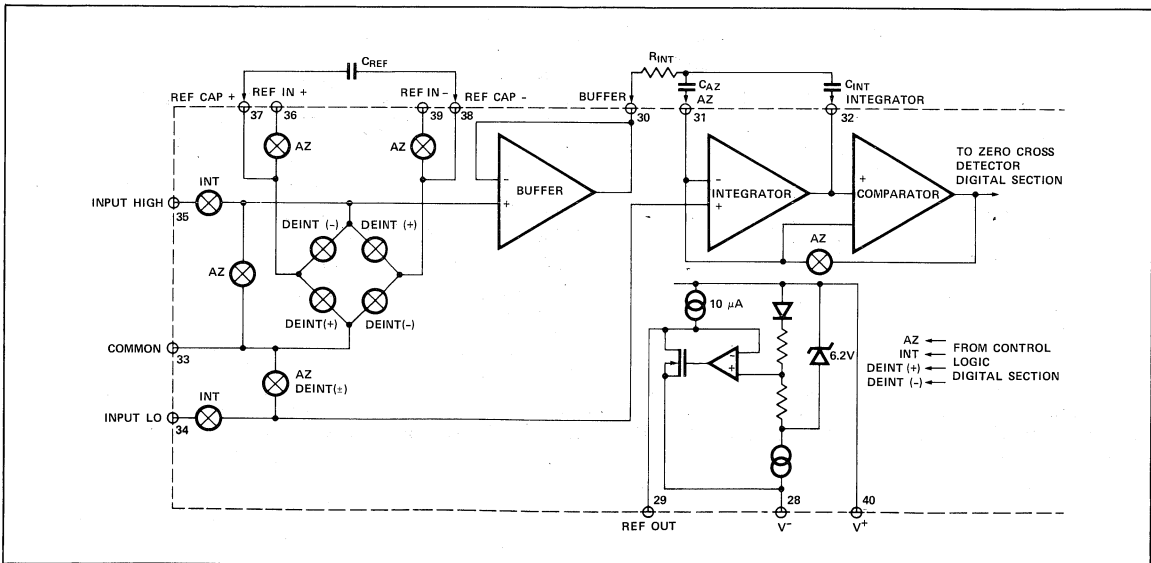
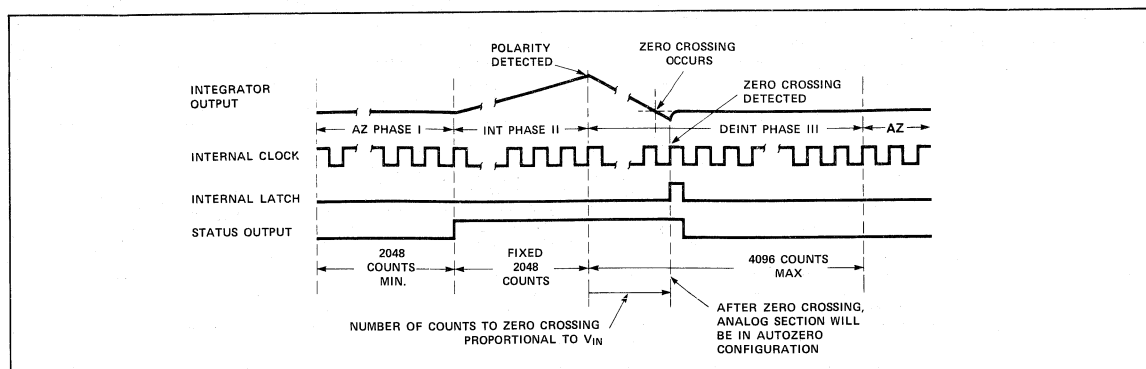

Figure 2: Analog Section
Figure 3: Conversion Timing (RUN/HOLD Pin High)
Figure 2 shows a block diagram of the Analog Section of the TSC7109. The circuit will perform conversions at a rate determined by the clock frequency (8192 clock periods per cycle), when the RUN/HOLD input is left open or connected to V⁺. Each measurement cycle is divided into three phases as shown in Figure 3. They are: (1) Auto-Zero (AZ), (2) Signal Integrate (INT), (3) Reference Deintegrate (DE).
During a conversion cycle, the STATUS output goes high at the beginning of Signal Integrate and goes low one-half clock period after new data from the conversion has been stored in the output latches. See Figure 3. The signal may be used as a "data valid" flag to drive interrupts, or for monitoring the status of the converter. (Data will not change while STATUS is low).
With RUN/HOLD high or open, the circuit operates normally as a dual slope A/D as shown in Figure 3. Conversion cycles operate continuously with the output latches updated after zero crossing in the de-integrate mode. An internal pullup resistor is provided to insure a high level with an open input.